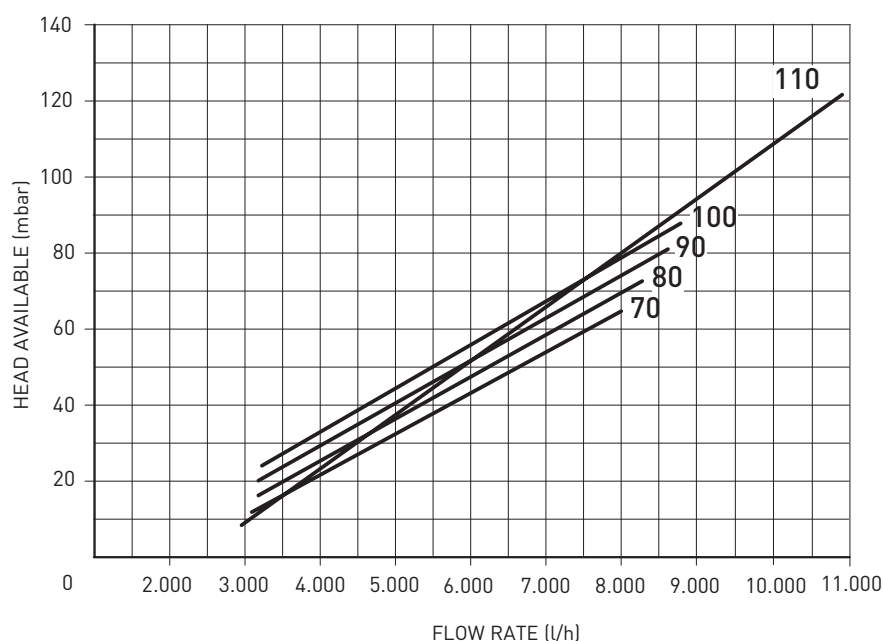

Fig. 9
3.5 SYSTEM AVAILABLE HEAD (fig. 9)
The head available is shown in graph in fig. 9.